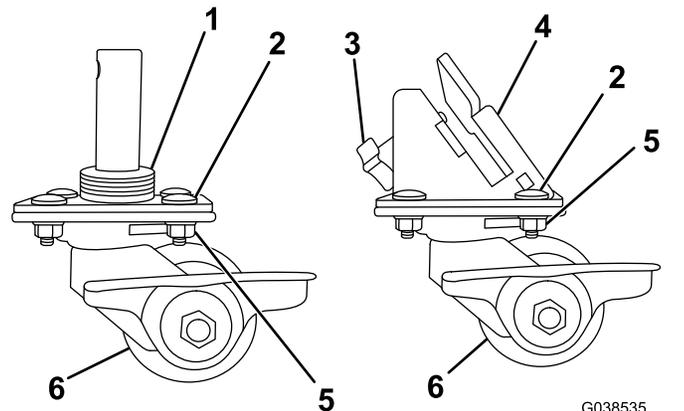

Figure 9
1. Assemble the casters as shown in Figure 9.